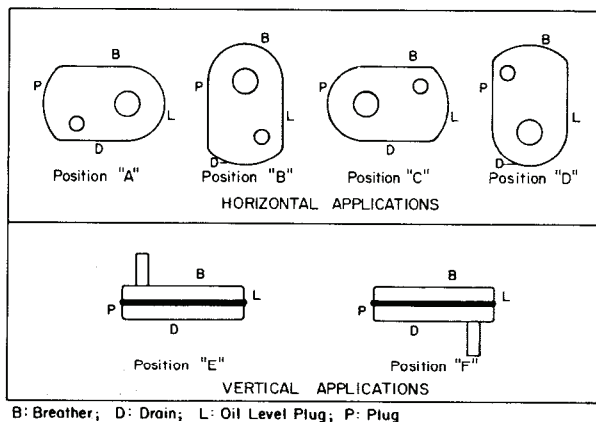

FIG. 1 — Mounting Positions
2. Determine the running position of the reducer. (See Fig. 1). Note that the reducer housing has been machined for pipe plugs; around the sides of the reducer for horizontal applications and in each face for vertical applications. The plugs must be arranged relative to the running position as follows:
The running position of the reducer in a horizontal application is not limited to the four positions shown in Figure 1. However, if running position is over 20° either way from sketches, the oil level plug cannot be safely used to check the oil level, unless during the checking the torque arm is disconnected and the reducer is swung to within 20° of the positions shown in Figure 1. Because of the many possible positions of the reducer, it may be necessary or desirable to make special adaptations using the lubrication fitting holes furnished along with other standard pipe fittings, stand pipes and oil level gages as required.
† Refer to Fig. 1 on page 2 for mounting positions.
Note: If reducer position is to vary from those shown in Figure 1 either more or less oil may be required. Consult factory.